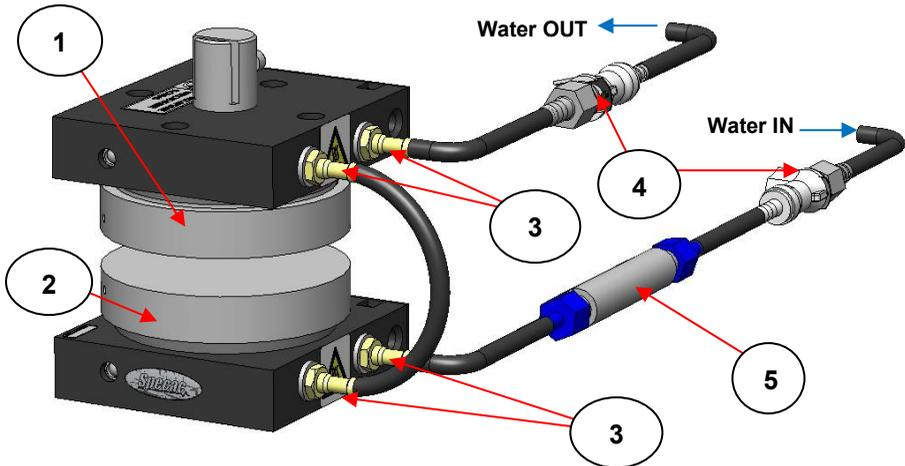
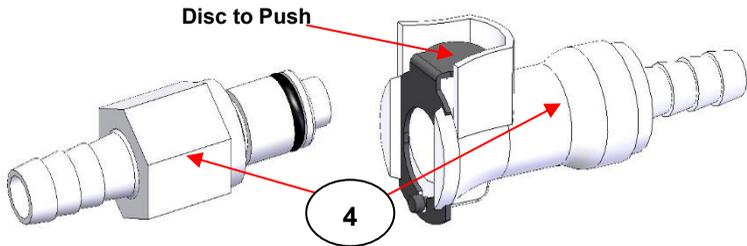
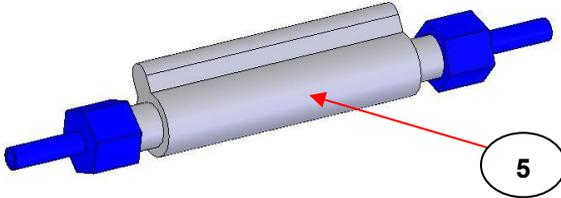
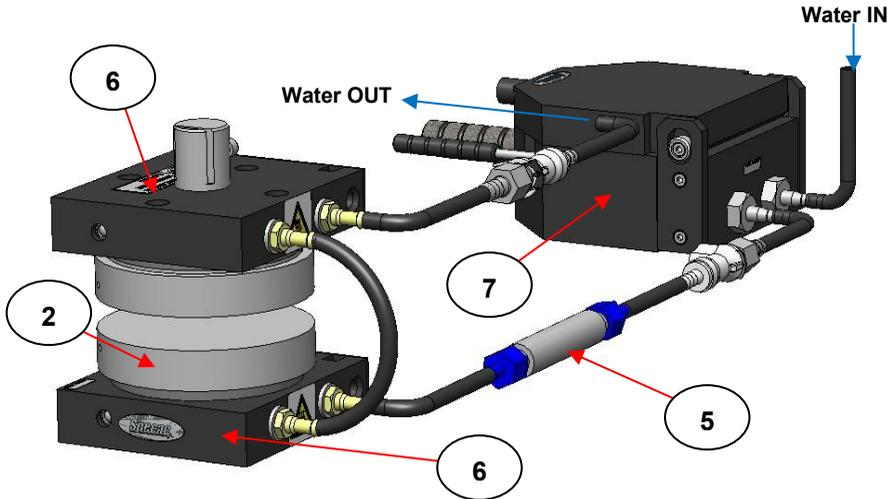

Fig 1. Connection of Parts for Water Cooling of the Top and Lower Heated Platen Assemblies
Fig 2. Insert and Body Quick Connectors
Fig 3. Water In-line Flow Safety Cut Out Switch
Fig 4. Flow Connections for Cooling Block Assembly of Constant Thickness Film Maker Accessory P/N GS15640
Before installation into a press, it is best to initially secure the black silicone rubber tubing for water cooling to the top (1) and lower (2) heated platen assemblies (as shown in **Fig 1.**). The silicone rubber tubing must be firmly secured to the heated platen water connections (3) using the plastic cable ties supplied.
The silicone rubber tubing supplied can be cut to specific lengths for the purposes of connection as shown in **Fig 1**. There are two pairs of quick connectors (**4**) as an insert and a body supplied (see **Fig 2.**) and they should be used on both the **water in** and **water out** lengths of tubing in the direction of flow as shown in **Fig 1**.
The water in-line flow safety cut out switch (**5**) (see **Fig 1**, **Fig 3.** and **Fig 4.**) **must** be included as part of the water-cooling system. It is a flow tube with an internal flow switch that cuts power to the Atlas™
If the Atlas™ Series Heated Platens are not going to be used for a long period of time, the cooling block parts (6) of both the top (1) and lower (2) heated platen assemblies should be stored **without any water inside them**. After disconnection of the silicone tubing, any water left inside can be expelled carefully by connection of either one of the water connection ports (3) to an airline to blow the water out and away to a drain. (See Fig 1. and Fig 4.)
If the Constant Thickness Film Maker Accessory P/N GS15640 is to be used with the Atlas™ Series Heated Platens, the cooling chamber assembly (7) provided as part of this Film Maker Accessory should be included in the water-cooling system as shown in Fig 4.
This is a very similar connection set up as shown in Fig 1., but the cooling water should pass through the cooling chamber assembly (7) prior to passage through the heated platen cooling blocks (6). This ensures that the **coolest water** will always flow through the cooling chamber assembly (7) first before passing through the heated platen cooling blocks (6). In this situation of use for inclusion of the cooling chamber assembly (7) in the water-cooling circuit, the safety cut out switch (5) can be situated before or after the cooling chamber assembly (7), but it is important that the safety cut out switch (5) is placed **before any water flows through the lower heated platens assembly (2)**.
Before applying any power from the temperature controller to the heated platen assembly top (**20**) and lower (**21**) **heated surfaces**, cooling water **MUST** be flowing through the water cooling circuit of parts as shown in **Fig 1**. when the heated platens are installed for use only or **Fig 4**. when the heated platens and cooling block assembly (**7**) of the Constant Thickness Film Maker accessory P/N GS15640 is to be used. Start the flow of cooling water, typically at a flow rate of 0.5 to 1.0 Liters/min. (The minimum flow rate is 0.2 Liters/min in order to keep the in-line flow cut out switch (**5**) open to provide power to the temperature controller).
As mentioned previously, if the Atlas™ Series Heated Platens are not going to be used for a long period of time, the cooling block parts (6) of both the top (1) and lower (2) heated platen assemblies should be stored **without any water inside them**. After disconnection of the silicone tubing, any water left inside can be expelled carefully by connection of either one of the water connection ports (3) to an airline to blow the water out and away to a drain. (See Fig 1. and Fig 4.)